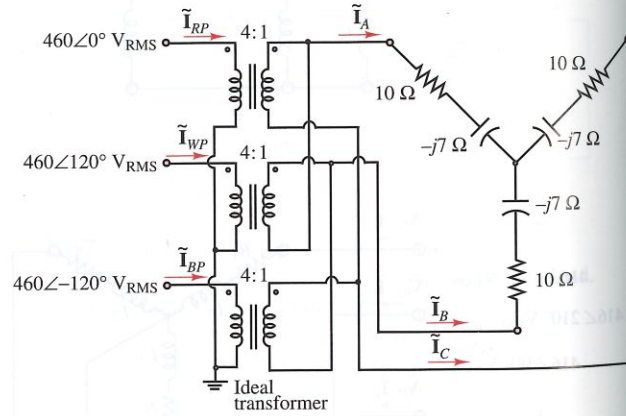

Figure P7.75
7.75 The circuit shown in Figure P7.75 is a Y-Δ-Y connected three-phase circuit. The primaries of the transformers are wye-connected, the secondaries are delta-connected, and the load is wye-connected. Find the currents $\tilde{I}_{RP}$, $\tilde{I}_{WP}$, $\tilde{I}_{BP}$, $\tilde{I}_A$, $\tilde{I}_B$, and $\tilde{I}_C$.